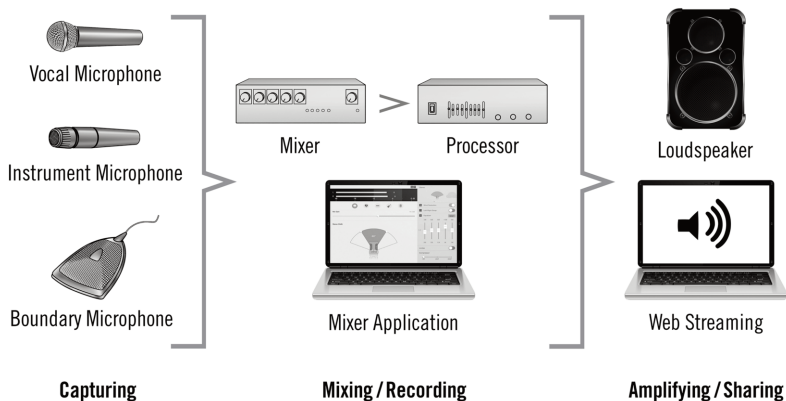

Figure 15: Common sound chain
- Step 2: Using the XLR microphone cables, connect the microphones to the mixer inputs (see figure 15).